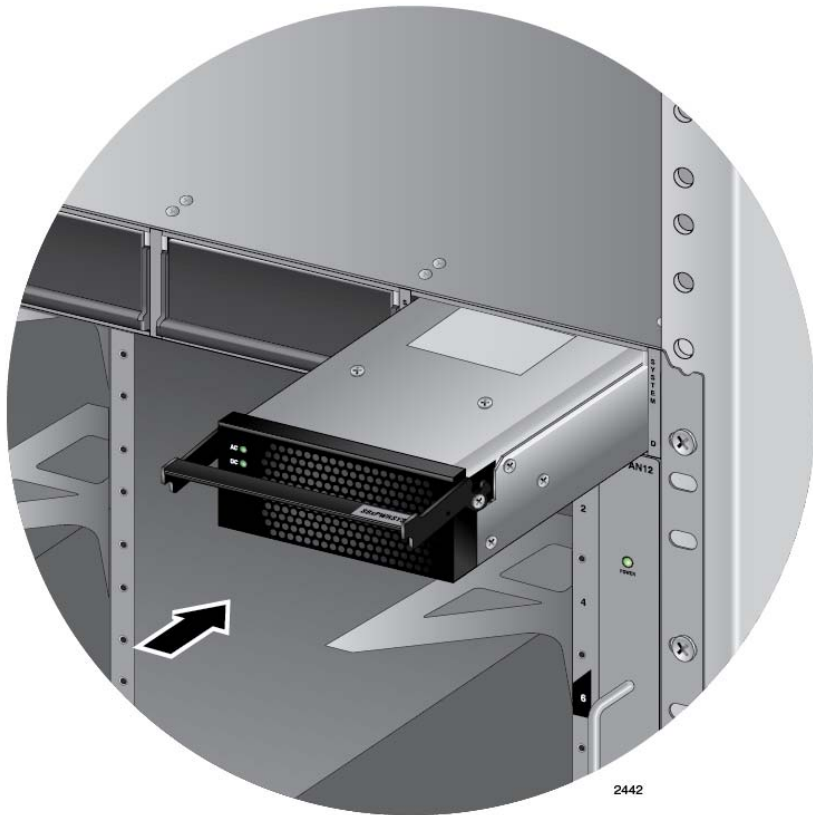

Figure 47. Inserting the AT-SBxPWRSYS1 Power Supply
6. Align and insert the AT-SBxPWRSYS1 Power Supply into the power supply slot. Figure 47 shows the power supply installed in slot D.